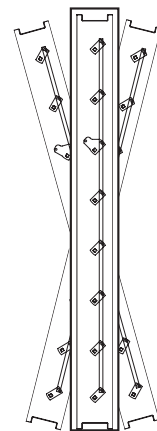

Figure 1
- 1) Dampers ordered with "nominal" sizing are undersized ¼ in. (6mm) to facilitate ease of installation. For example, a 12 in. x 12 in. (305mm x 305mm) nominal damper will measure 11¾ in. x 11¾ in. (298mm x 298mm). Dampers ordered with "actual" sizing are not undersized. The duct or barrier opening that the damper is being mounted in should be ¼ in. (6mm) larger than the damper dimensions in both width and height. The opening should also be straight and level (**Figure 1**).